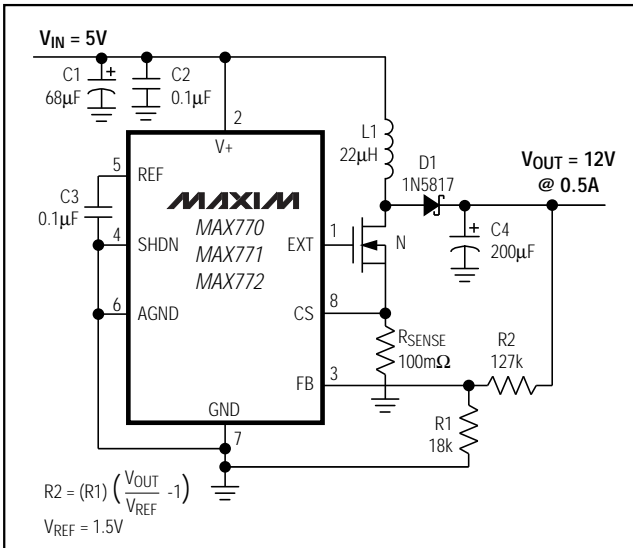

Figure 2c. 12V Output, Non-Bootstrapped
**Note:** When using the MAX770/MAX771/MAX772 in non-bootstrapped mode, there is no preset output operation because  $V+$  is also the output voltage sense point for fixed-output operation. External resistors must be used to set the output voltage. Use 1% external feedback resistors when operating in adjustable-output mode (Figures 2c, 2d, 3b, 3d, 3e) to achieve an overall output voltage accuracy of  $\pm 5\%$ . The MAX773 can be operated in non-bootstrapped mode without using external feedback resistors because  $V+$  does not act as the output voltage sense point with preset-output operation. To achieve highest efficiency, operate in bootstrapped mode whenever possible.